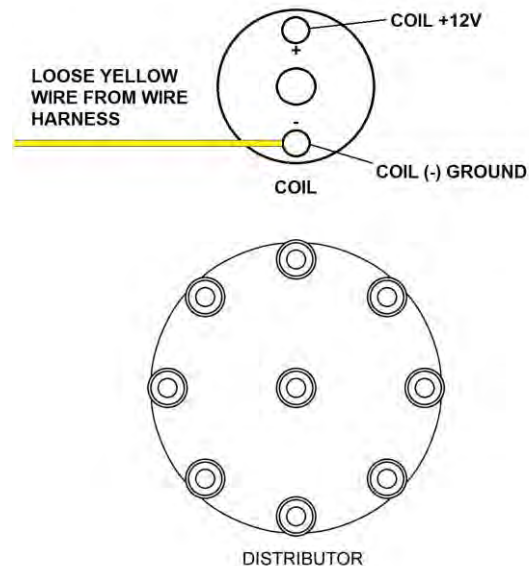

Figure 32
- 2) Any engine equipped with a factory mechanical advance distributor and separate canister style coil. This would include any points style distributor (Figure 32).
Figure 32 below shows how to connect to a factory style ignition with a canister style coil.